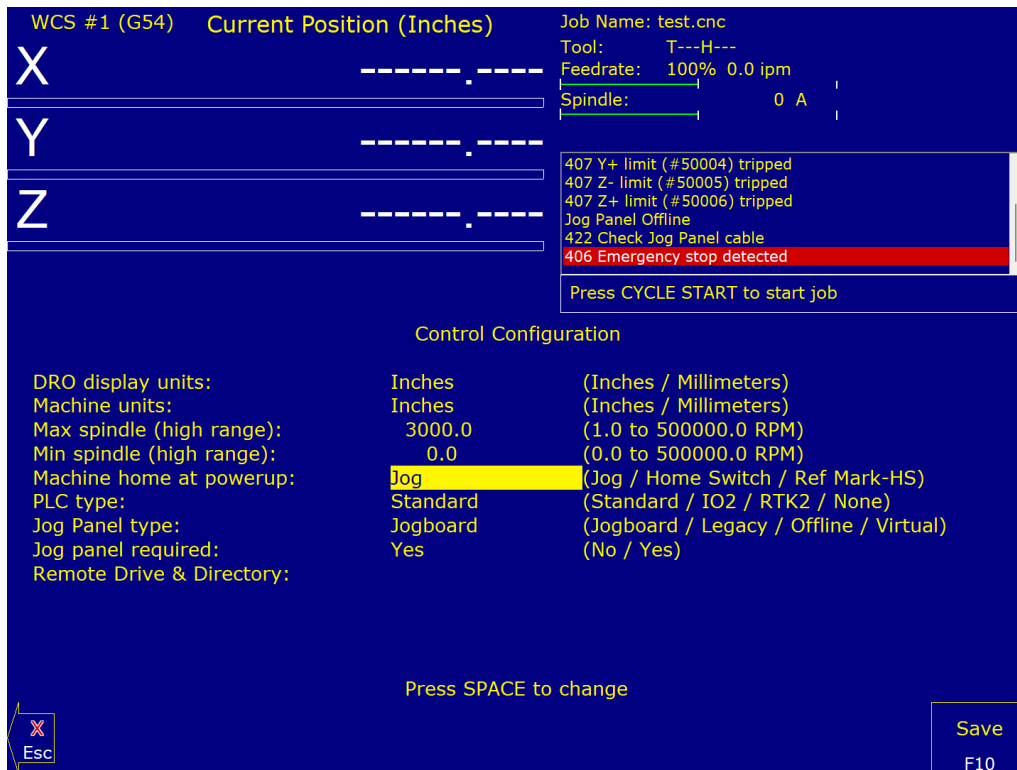

Figure 4.1.5
1. **Change Machine Home Type** Navigate to the “**Control Configuration**” screen as seen in Figure 4.1.5. From the main screen press **F1-Setup** → **F3 -Config**. The password is **137**. Then press **F1 Contrl**. Using the keyboard space bar change “**Machine home at power up**” to “**Jog**”. Press **F10-Save**